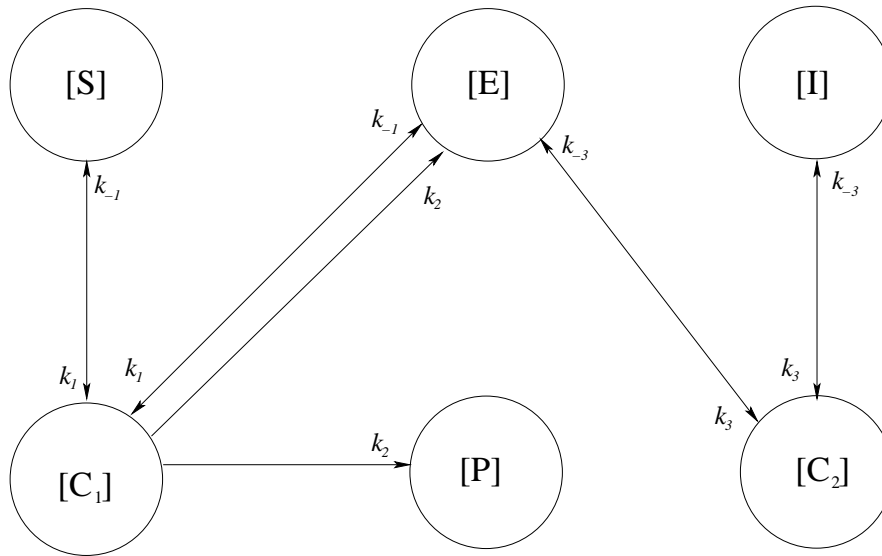

Figure 1.3 Compartment model representation of the enzyme inhibition dynamics.
- 1.4** Draw a graph of the compartment representation, see Fig 1.3. Next,